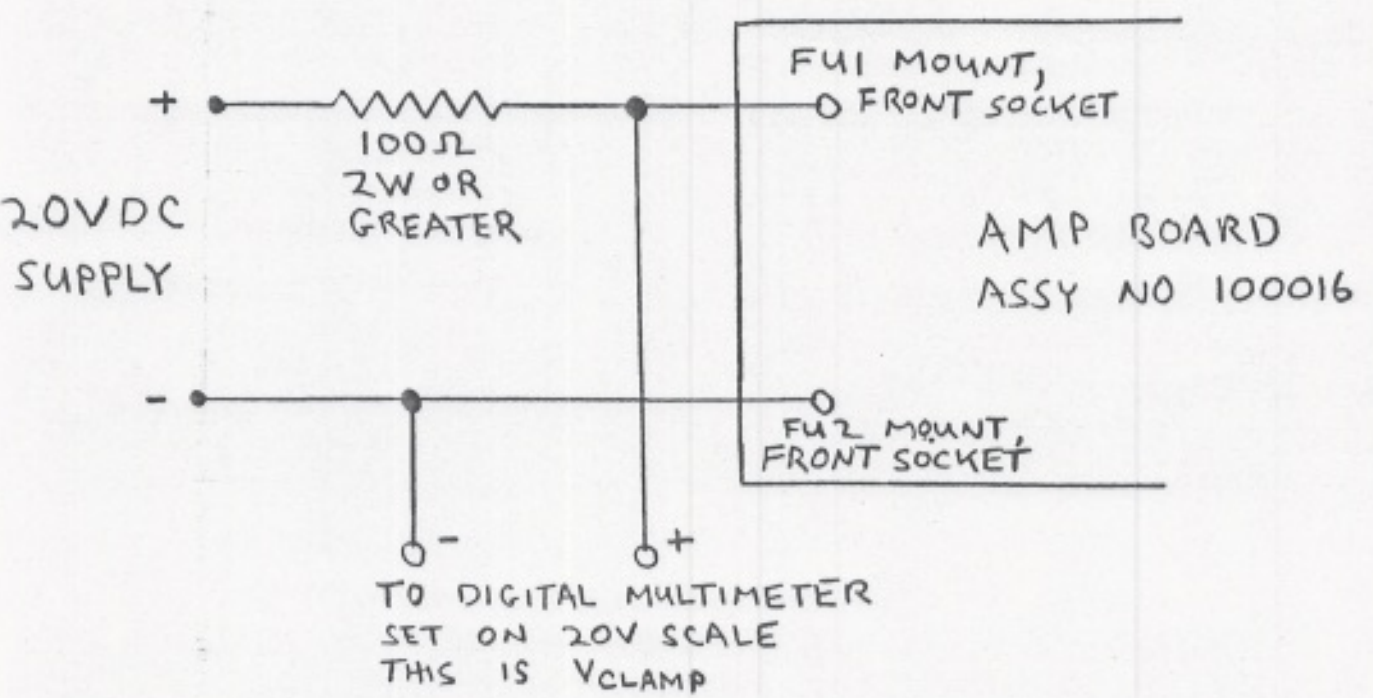

Figure 1. Test Equipment Wiring Schematic
4. With the DC supply off, connect the following test equipment to the Bus Wire leads in accordance with figure 1 on the following page.